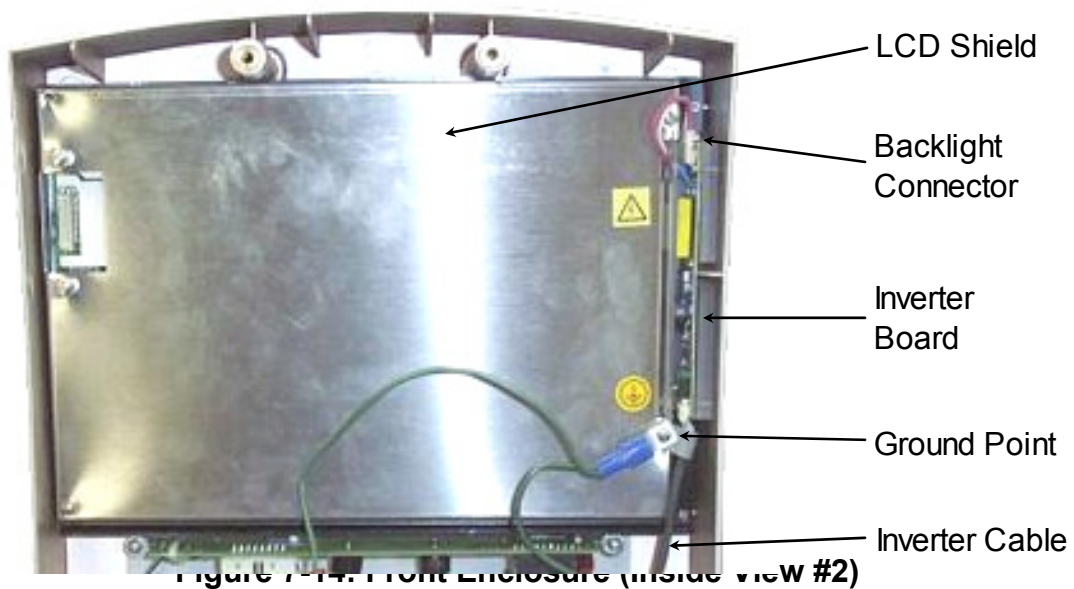

Figure 7-14: Front Enclosure (inside view #2)
2. Remove the (1) 3mm x 18mm Phillips head screw, lock washer and washer from the LCD shield (located at the inverter cable/ground junction corner) (see Figure 7-14).
3. Remove the remaining (2) 3mm x 14mm Phillips head screws and lock washers from the LCD shield.
4. Disconnect the backlight connector from the inverter board (see Figure 7-14).
6. Remove the (4) 2mm x 8mm Phillips flathead screws from the corners of the black LCD mask and lift it out.